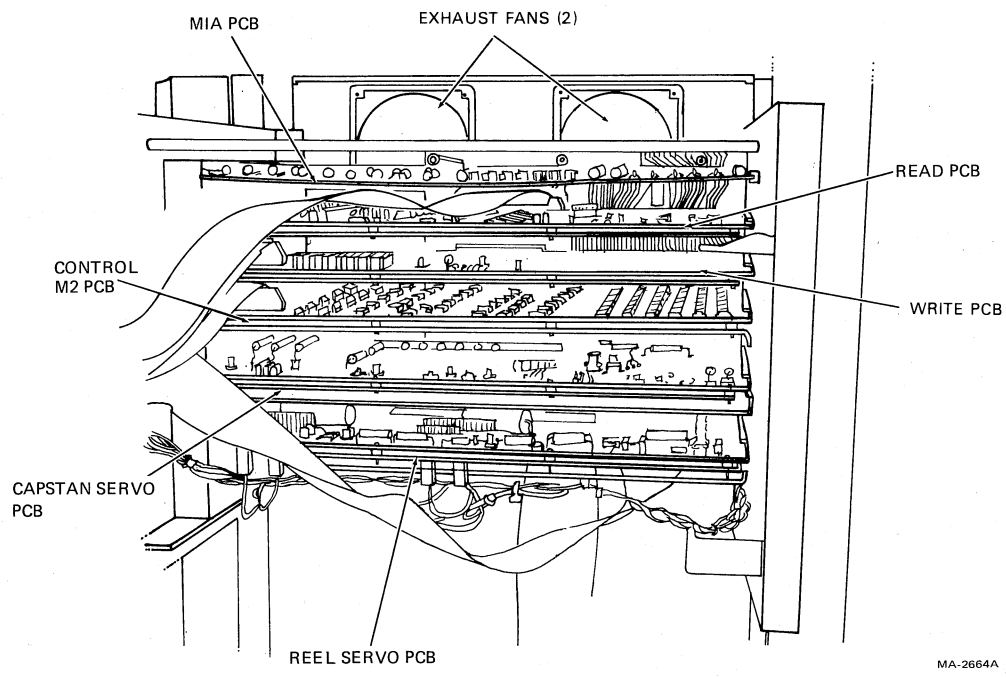

Figure 1-4 Card Cage Area
Figure 1-4 illustrates the card cage area containing the following items.
- Exhaust fans (2) (PN 12-17916-02)
- Interconnect D1 PCB (not shown in Figure 1-4) (PN 29-23211)